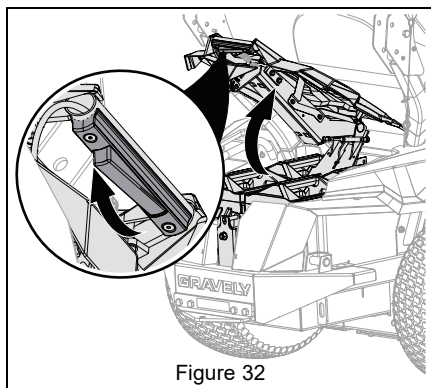

Figure 32
2. Open hood assembly. See Figure 32.